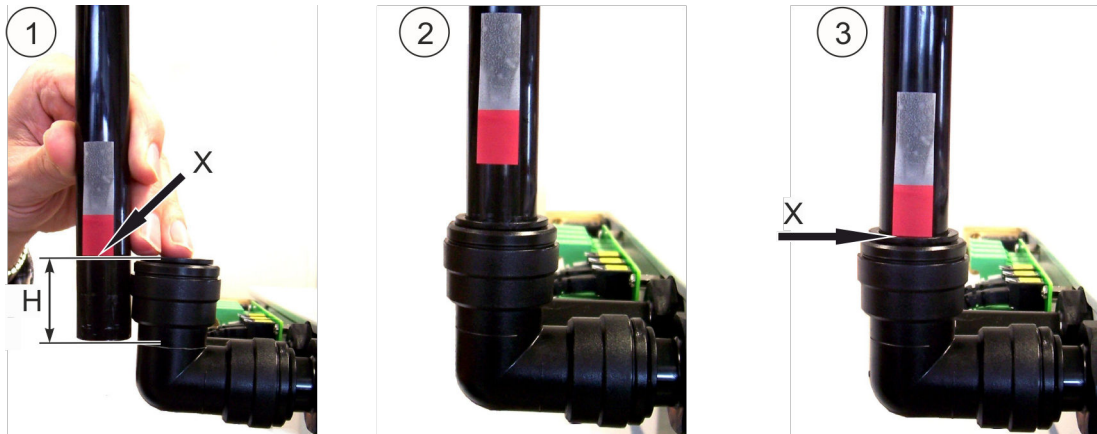

Fig. 28: Mounting
1. [Fig. 28 /1]: Mark the insertion depth (Fig. 28 /H) of the pipe (Fig. 28 /X). Use the auxiliary line at the pipe angle. Insertion depth (H) approx. 33 mm.
2. [Fig. 28 /2]: Loosely insert the pipe.
3. [Fig. 28 /3]: Push in the pipe up to the marking (Fig. 28 /X) and until it can be heard and felt to be in the stop.